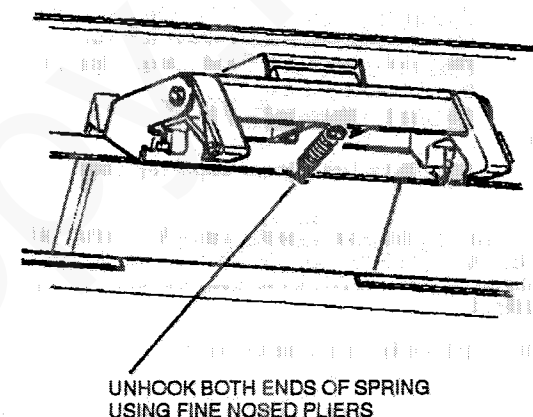

Figure 1. Opening latch spring removal
2. (Figure 1) Remove the opening latch spring.